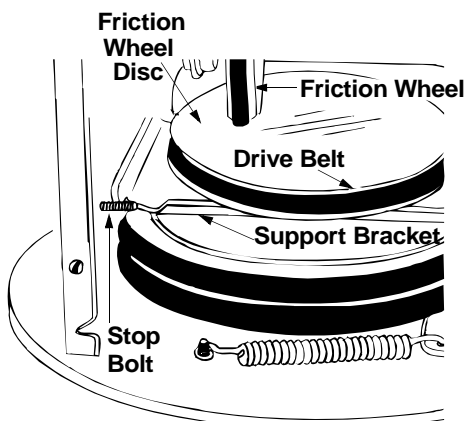

Figure 28
- Using a wrench, loosen the nut on the stop bolt until the support bracket rests on the auger pulley. See Figure 28.
- Slip belt between friction wheel and friction wheel disc. See Figure 28. Remove and replace belt. Reassemble in reverse order.
**NOTE:** The support bracket must rest on the stop bolt after the new belt has been assembled. See Figure 28.